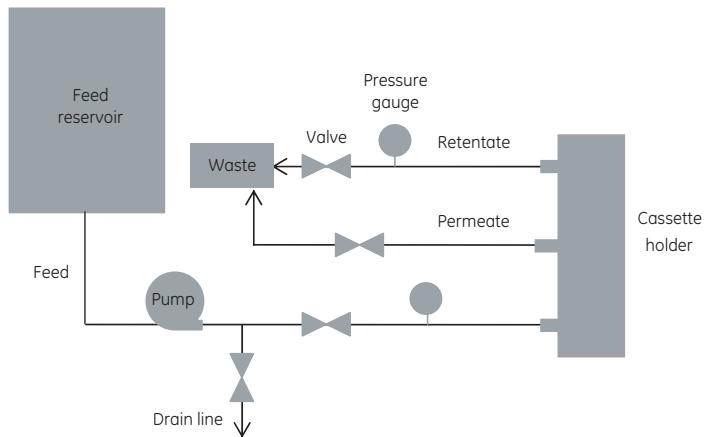

Fig 10. Typical setup for rinsing cassettes
- 3 Configure the system so that the retentate and permeate lines discharge to waste (Fig 10). Close the feed, retentate, and permeate valves.